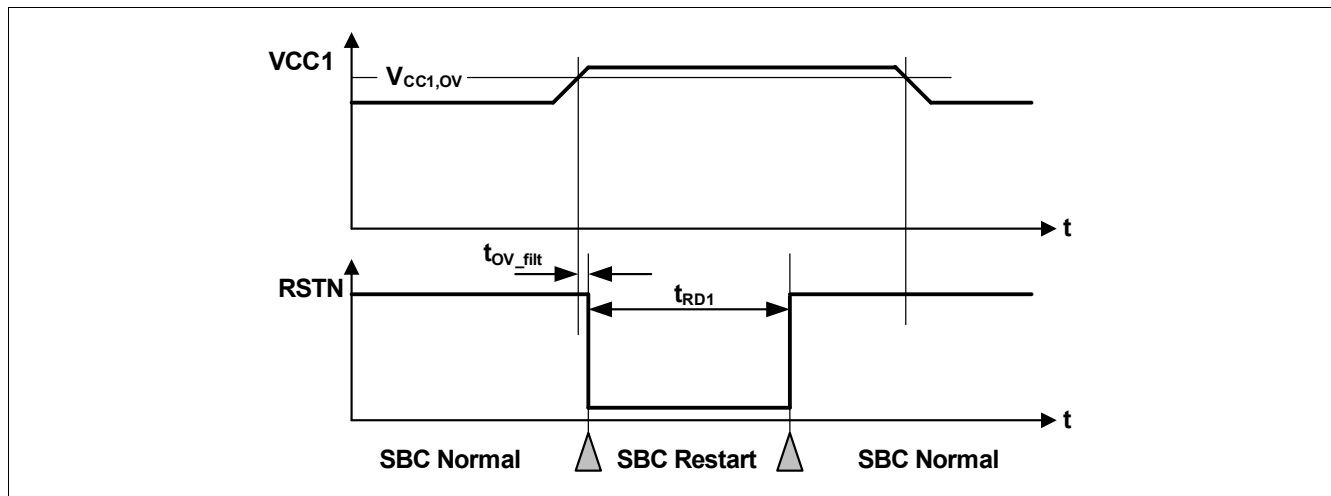

Figure 38 VCC1 Over Voltage Timing Diagram
- If the bit VCC1_OV_RST is set and CFG0_STATE = '1', then SBC Restart Mode is entered. The FO output is activated. After the reset delay time (t_{RD1}), the SBC Restart Mode is left and SBC Normal Mode is resumed even if the VCC1 over voltage event is still present (see also Figure 38). The VCC1_OV_RST bit is cleared automatically;